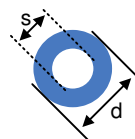

Figure 11-2. PowerPAD™ Layout Recommendation
- The thermal pad should be tied to the PCB ground plane with a minimum of 25 vias. See Figure 11-2 for an example.